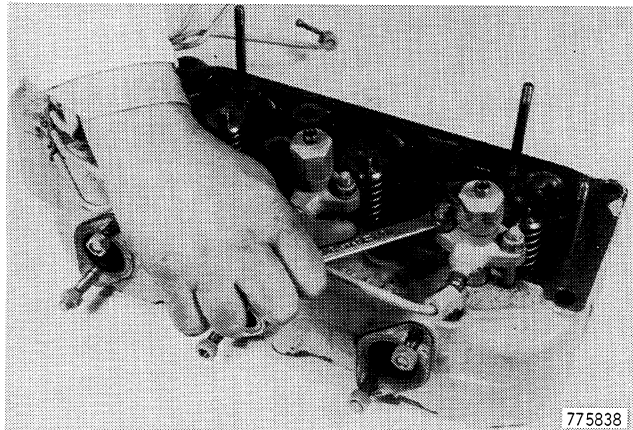

Figure 97
4. Tighten nuts evenly to 15 foot-pounds (20 N m), Figure 97.